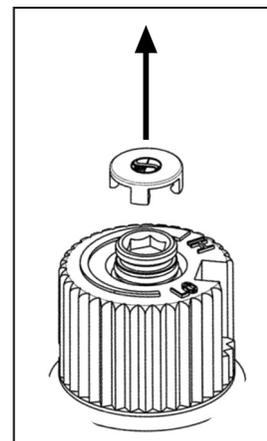

Figure 8: Removing valve cap.
a) Remove the black protection cap from the HI/LO knob by hand shown in Figure 8.
g) Re-attach the black protection cap that was removed in step a) (Figure 8).